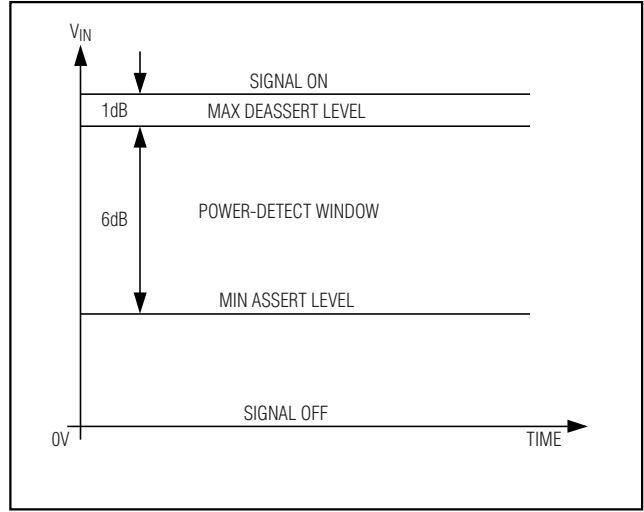

Figure 2. LOS Assert Threshold Set 1dB Below the Minimum by Receiver Sensitivity for Selected R_{TH}
- Note 7:** The signal is switched between two amplitudes, Signal_On and Signal_Off as shown in Figure 2.
built into the LOS assert/deassert function. Once asserted, the LOS is not deasserted until the input amplitude rises to the required level ($V_{DEASSERT}$). (See Figures 2 and 5.)